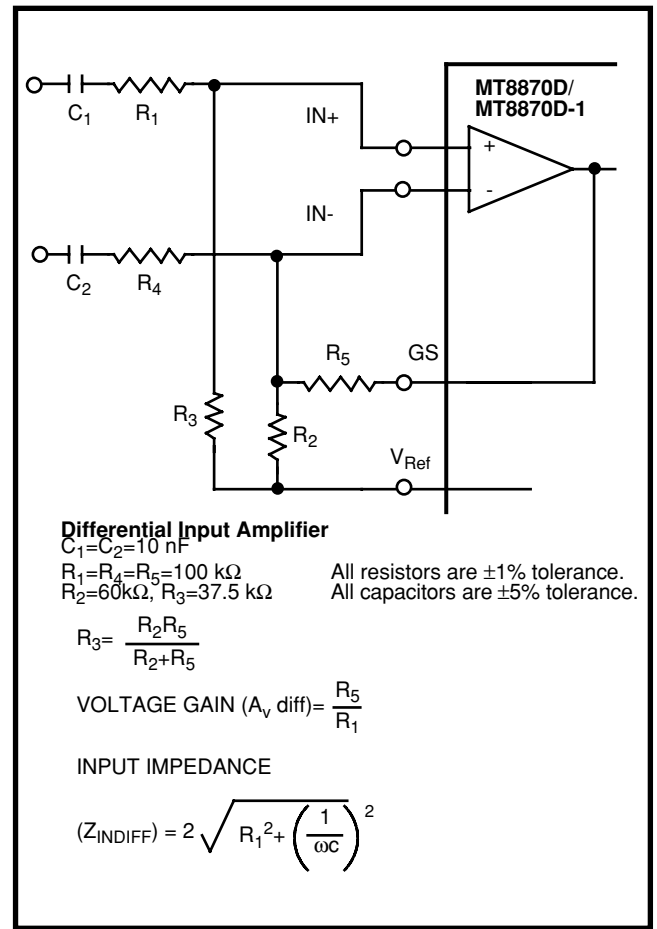

Figure 6 - Differential Input Configuration
The input arrangement of the MT8870D/MT8870D-1 provides a differential-input operational amplifier as well as a bias source (V_{Ref}) which is used to bias the inputs at mid-rail. Provision is made for connection of a feedback resistor to the op-amp output (GS) for adjustment of gain. In a single-ended configuration, the input pins are connected as shown in Figure 10 with the op-amp connected for unity gain and V_{Ref} biasing the input at $\frac{1}{2}V_{DD}$. Figure 6 shows the differential configuration, which permits the adjustment of gain with the feedback resistor R_5 .